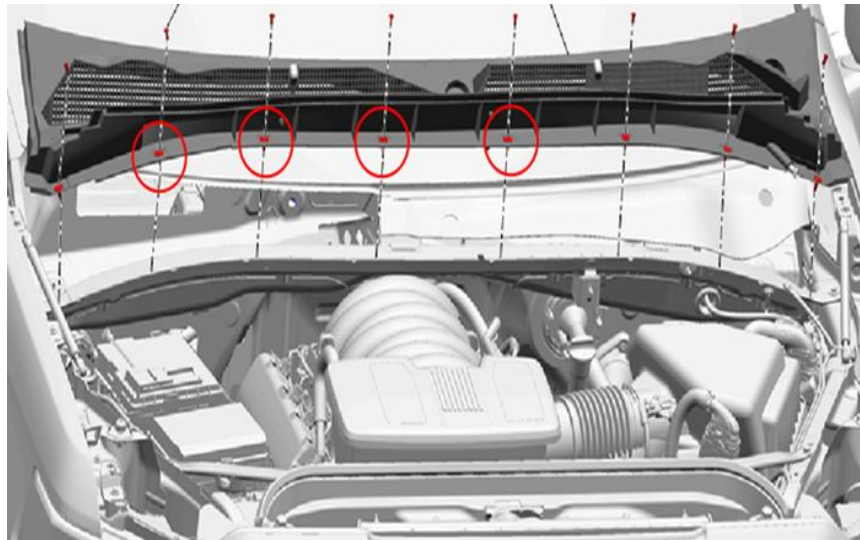

Figure 6
3. Remove the 4 (circled in red) retaining push pins (only) for the Air Inlet Grill as shown in figure 6